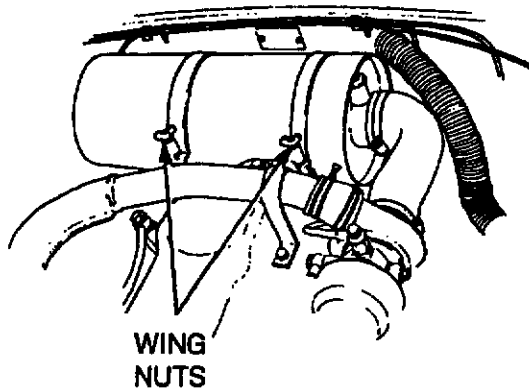

Figure 3-14 Air Cleaner Removal
- a. Remove the hose clamps securing the air inlet and outlet hoses to the air cleaner housing (see Fig. 3-14) then remove the two wing nuts from the clamp bolts. Disconnect the compressor feed hose and carefully lift the air cleaner out of the mounting brackets.